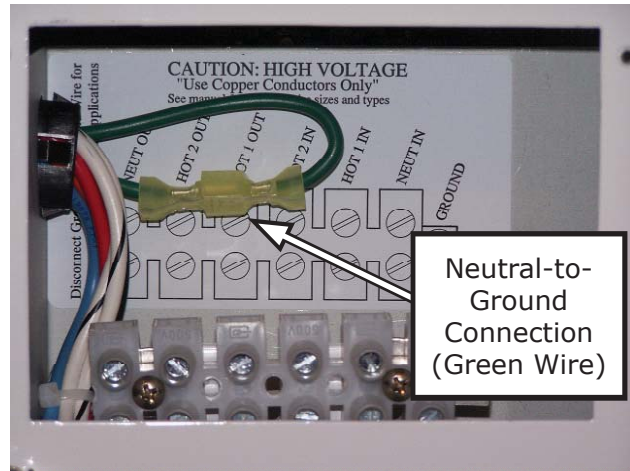

Figure 2-22, Disconnecting the Ground-to-Neutral connection
2. Look inside and locate the green wire with the insulated connector at the top of the AC wiring compartment; see Figure 2-22. This insulated connector connects the neutral and ground inside the inverter while inverting.